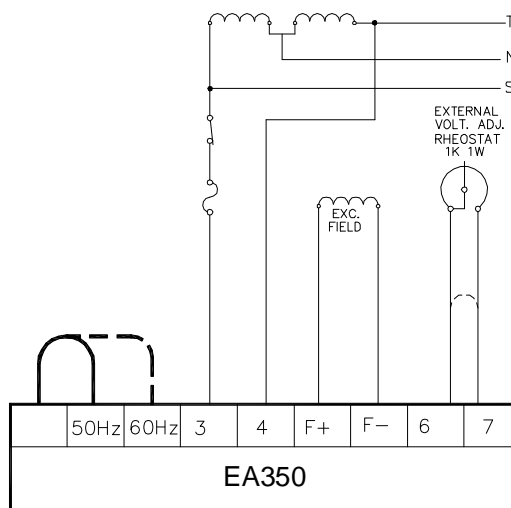

Figure 5 1Ø 220VAC Diagram
- See Figure 5~6 for typical connection diagram
See Figure 5~6.
The screwdriver adjustable potentiometer adjusts the generator output voltage. Adjustment clockwise increases the generator output voltage. When using a remote voltage adjust rheostat, remove the jumper wire across terminals 6 and 7 and install a 2000 ohm 1/2 watt (minimum) rheostat. This will give $\pm 10\%$ voltage variation from the nominal. (For $\pm 5\%$ voltage variation use a 1000 ohm 1/2 watt rheostat). See Figure 5~6.
- Rheostat Jumper connected across terminals 6 and 7. This enables adjustment of the generator output voltage rheostat. A 1000 ohm, half-watt rheostat will provide adequate voltage adjustment range for most applications. Figure 5~6 shows the proper remote rheostat connections.